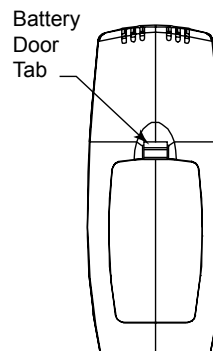

Fig. 59 Battery door tab.
1. Press down the battery door tab and pull out to remove the battery door. (Fig. 59)
4. When three (3) batteries are installed, the transmitter will initialize for 10 seconds and then is ready for use.
5. The batteries should be replaced at least once every six (6) months or when the low battery indicator is displayed.